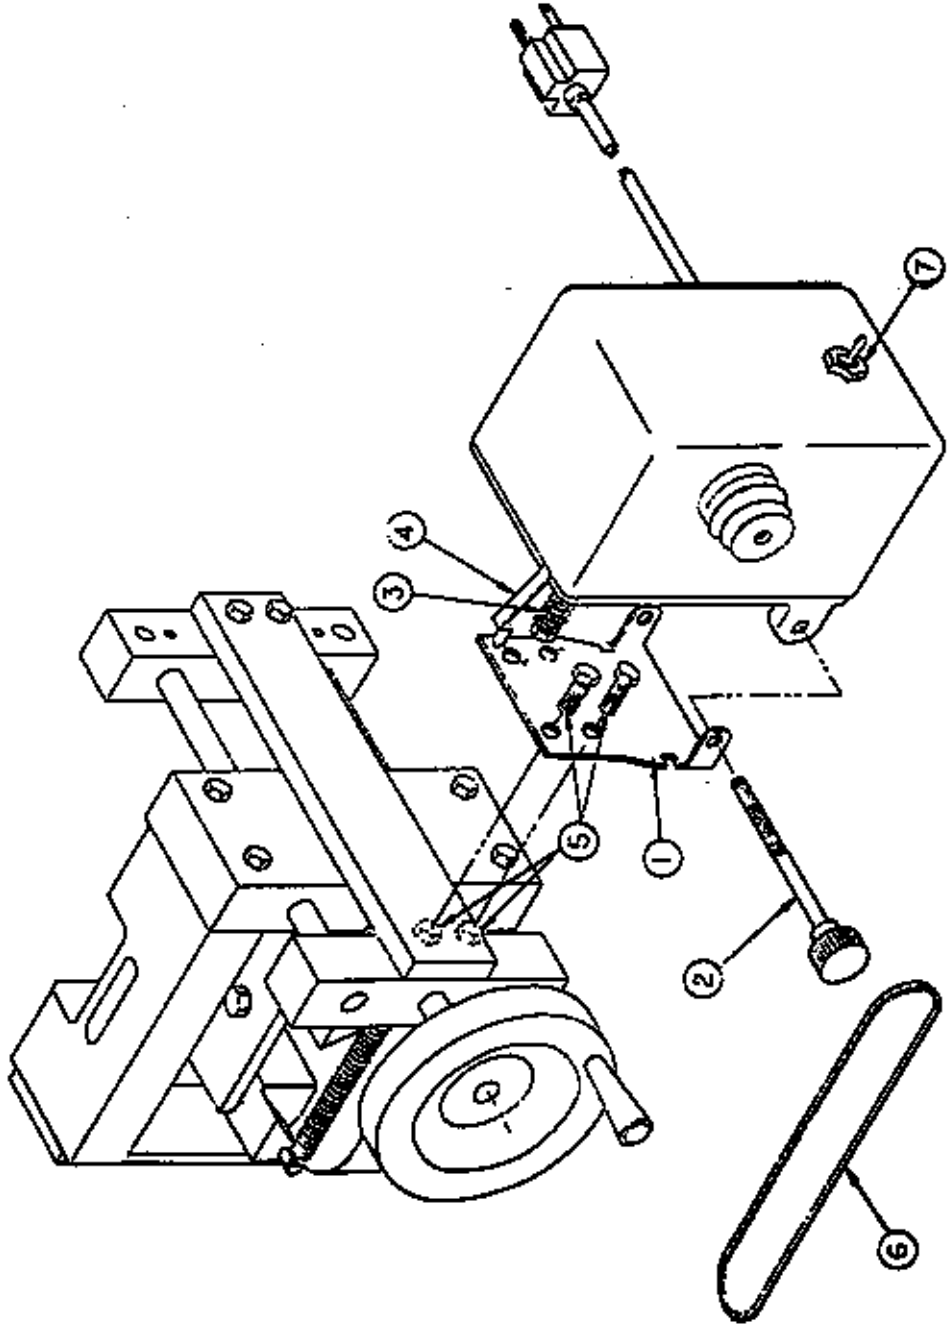

Figure 1
1. Remove the two 1/4 x 3/4 hex screws (Item 5) from the Kwik-Lathe. Mount the support hinge (Item 1) as illustrated in Figure 1 to the Kwik-Lathe. Remove the pivot pin (Item 2), to release the support hinge on the power feed, for easier assembly.